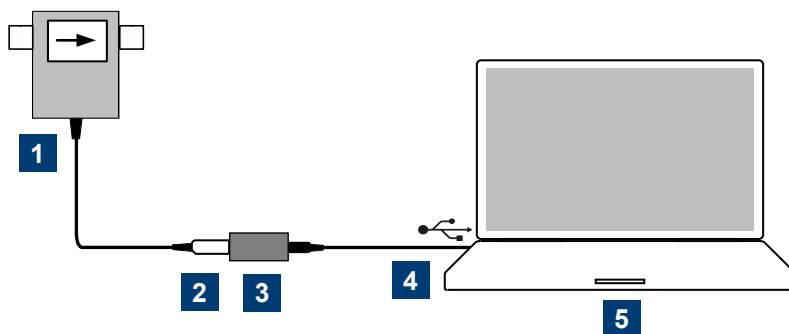

Figure 3-2: Connecting to computer
2. Connect the host interface connector of the R&S NRT-Zxx, (2) in Figure 3-2, to the sensor interface of the R&S NRT-Z5.